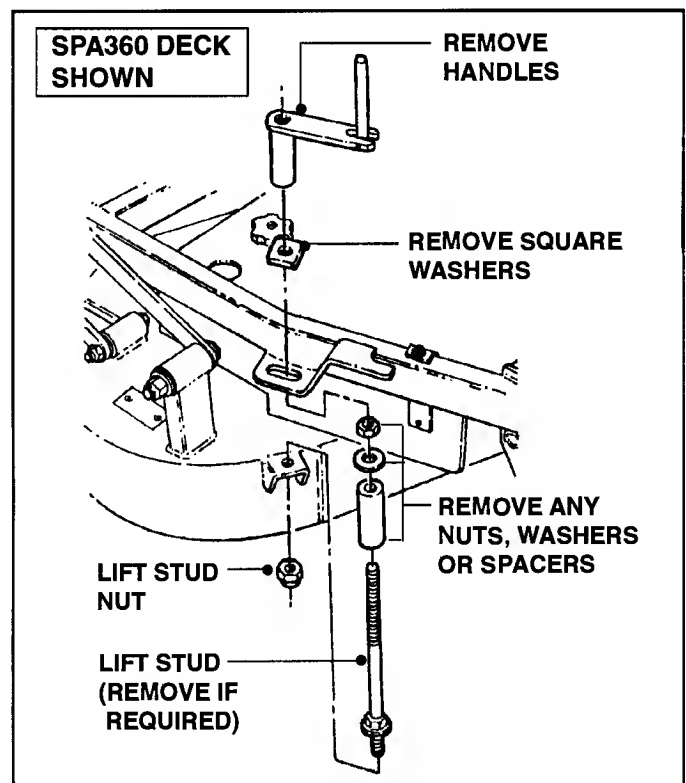

FIGURE 5.23
1. Place four (4) evenly-sized blocks under front and rear of deck.
3. Remove the square washers. See Figure 5.23.